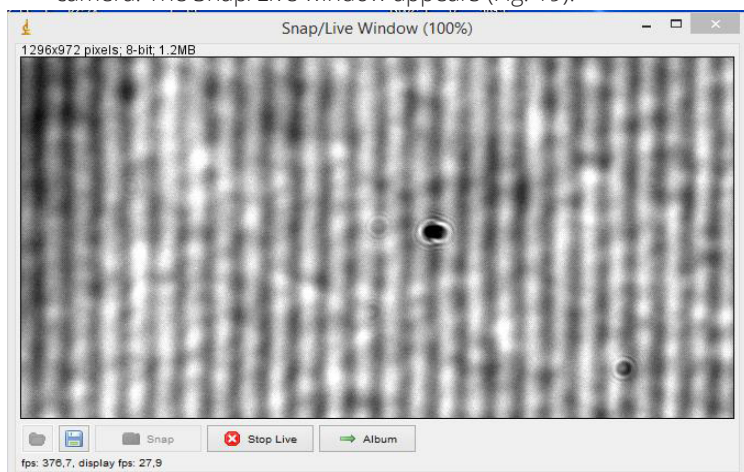

Fig. 20–The live viewing window of the USB 3.0 camera indicates the frame rate (fps). Here the ROI size of 1296x972 leads to 376.7 fps.
- **ImageJ main window**–The OptiSarc plugin for μ Manager was installed for image processing. You may access the *OptiSarc* plugin within ImageJ by selecting the *Plugins* menu and choosing *OptiSarc* (Fig. 20). This brings up the most recently installed version of the *OptiSarc* plugin.